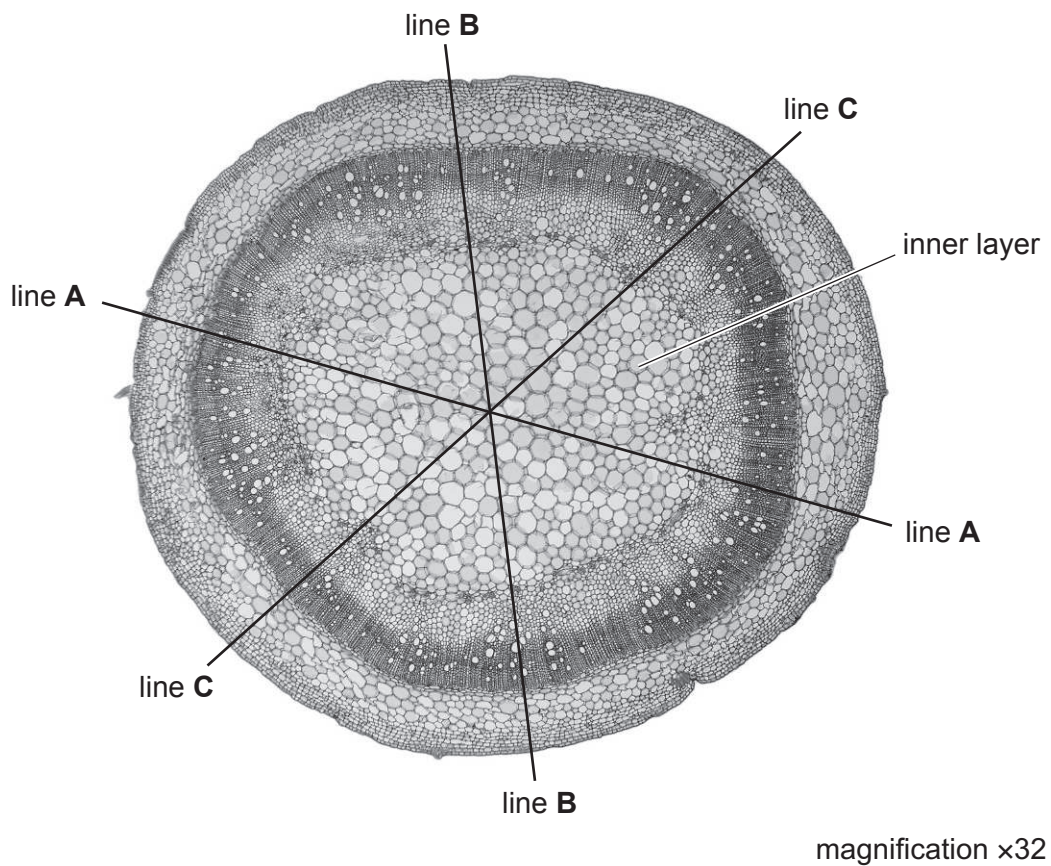
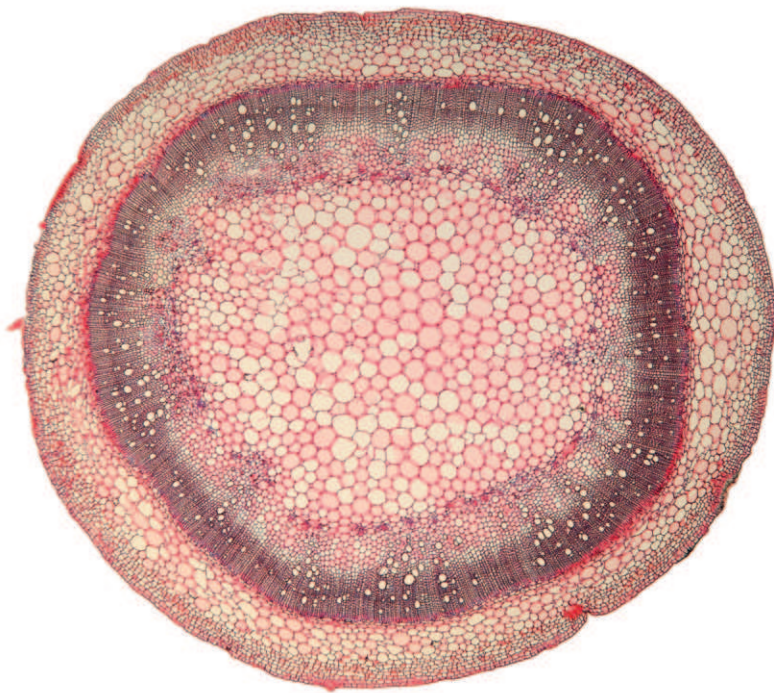

Fig. 2.2
Fig. 2.3
- (b) Fig. 2.2 is a photomicrograph of a stained transverse section through a stem of a different type of plant.
- (i) The magnification of the stem section in Fig. 2.2 is $\times 32$.
- (c) Fig. 2.3 is a photomicrograph of the same stem section that is in Fig. 2.2.
Identify the observable differences between the stem section in Fig. 2.3 and the stem section on **L1**.